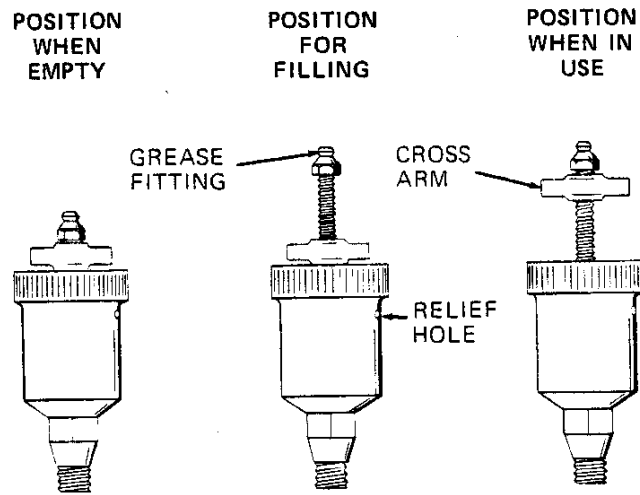

Figure 4. Automatic Lubricating Grease Cup
Before removing the seal assembly, turn the cross arm on the seal grease cup (18) clockwise until it rests against the cover (see figure 4). This will prevent the grease in the cup from escaping after the seal is removed.
Before starting the pump, fill the grease cup through the grease fitting with a good grade of No. 2 pressure gun grease until grease escapes from the relief hole. Turn the grease cup arm counterclockwise until it is at the top of the stem; this will release the spring to apply grease to the seal (see figure 4).